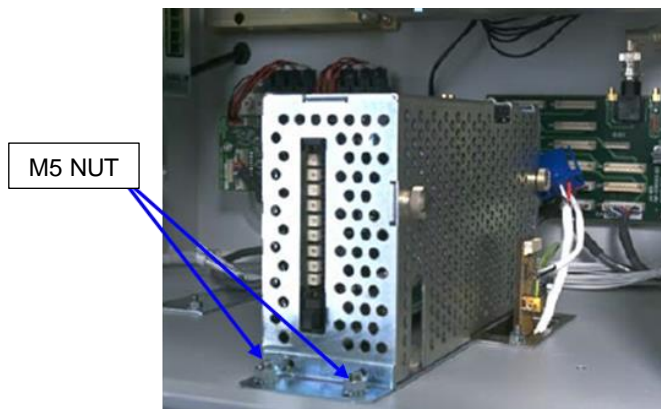

Figure 18. SNE Assembly Mounting Nut
2. Remove the 5mm nut (two nuts if old enclosed-style cage) from front SNE mounting bracket; (Figure 18). If the new open housing has been installed, then only one of the bolts will fit through the new housing, and thus only one nut will need to be removed.